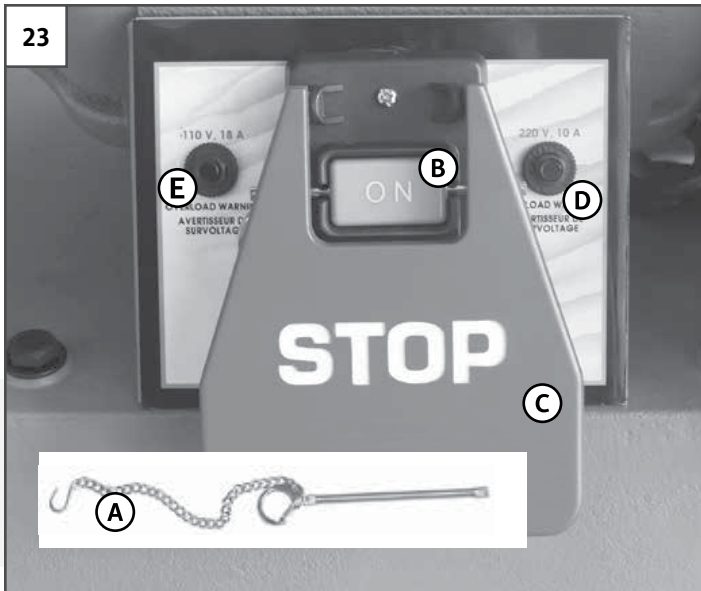

FIGURE 23: POWER SWITCH AND CIRCUIT BREAKERS
The MI-16300 is equipped with a **LOCK-OUT PIN (A)**. When the **LOCK-OUT PIN (A)** is installed through the **ON BUTTON (B)**, the sander cannot be started. See Figure 23.